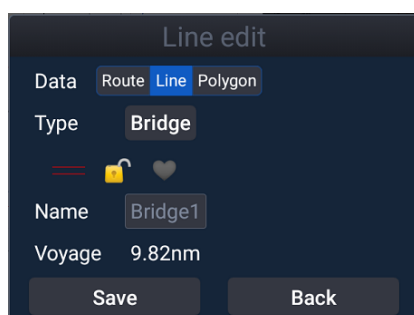

Figure 2.14 Plotted line editing window
**Method 1:** On the [CHART] page, long press to add the position of the first point, a window will pop up. Click [Add] to determine the position of the first point and click the second position on the chart to determine the second point (refer to Figure 2.13). Multiple points can be added by clicking the chart multiple times. After the drawing line is selected, click [Confirm] to enter the plot line editing window, and select [Line] as the data to perform related editing of the line (refer to Figure 2.14), as described below.